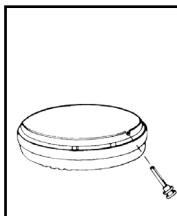

FIGURE 9
7. USING TAMPER RESIST LOCKING PIN (all models except i9040 and i9040RV): To make your smoke alarm tamper resistant, a locking pin has been provided in the bag with the screws and anchors. Using this pin will help deter children and others from removing the alarm from the mounting plate. To use the pin, insert it into the hole in the side of the alarm after the alarm has been installed on the mounting plate (see FIGURE 9).